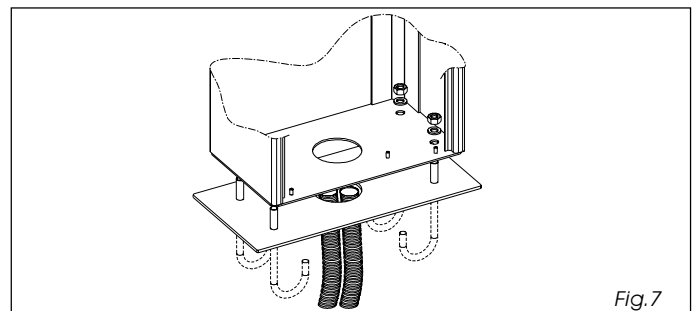

Fig.7
- using the four supplied nuts, secure the upright on the foundation plate as shown in fig.7.